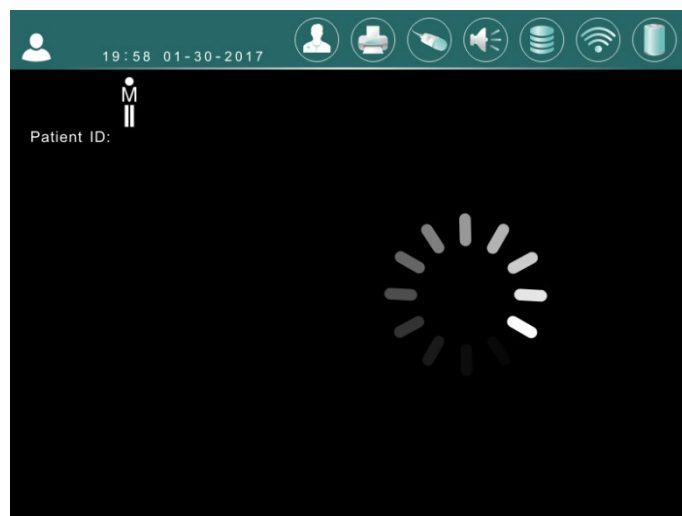

Figure 7-8 Scan interface
7.5.6 Under the pre-scan interface, press the scan button again  or touch  to enter the "scan interface" as shown in figure 7-8.